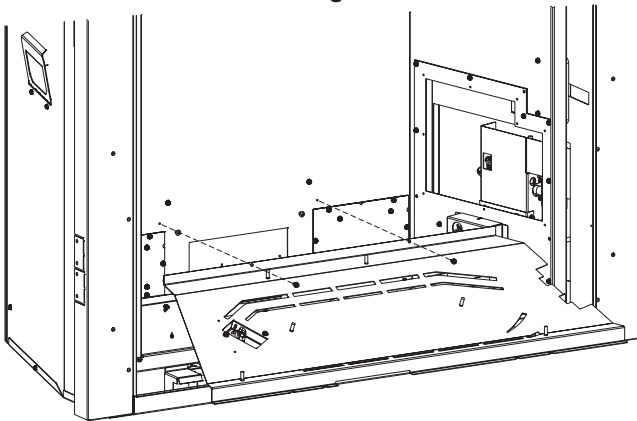

Figure 8
3. Remove burner base. **See Figure 8.**